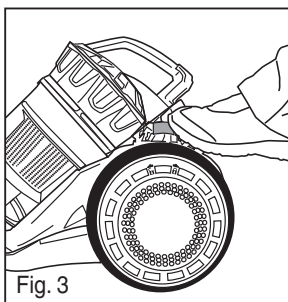

Fig. 3
- Push wand into floor nozzle; twist to tighten (Fig. 3).
- Step on power switch to turn on vacuum (Fig. 3).